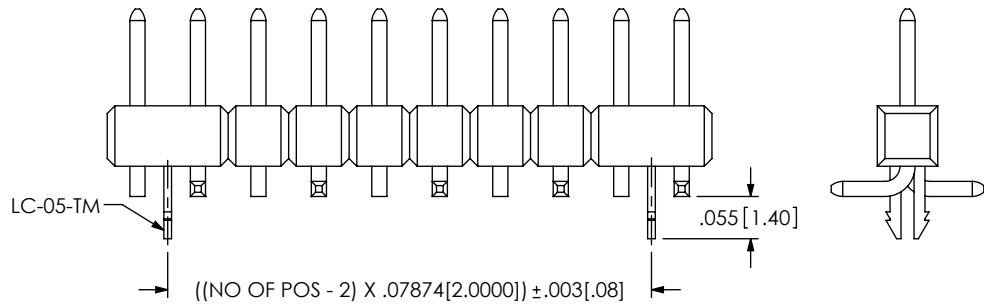

FIG 4
-LC: LOCKING CLIP (SEE NOTE 5) (USE LC-05-TM; SEE FIG 4 & 5, SHT 3)